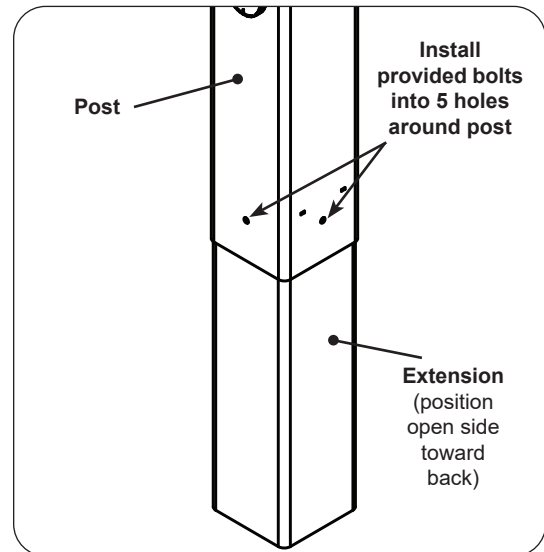

Fig. 30-1 Install extension to post
1. Attach the extension to the bottom of the grill post so that the open portion is toward the back of the grill and the five holes in the extension line up with the five (5) weld-nuts in the post (see Fig. 30-1).